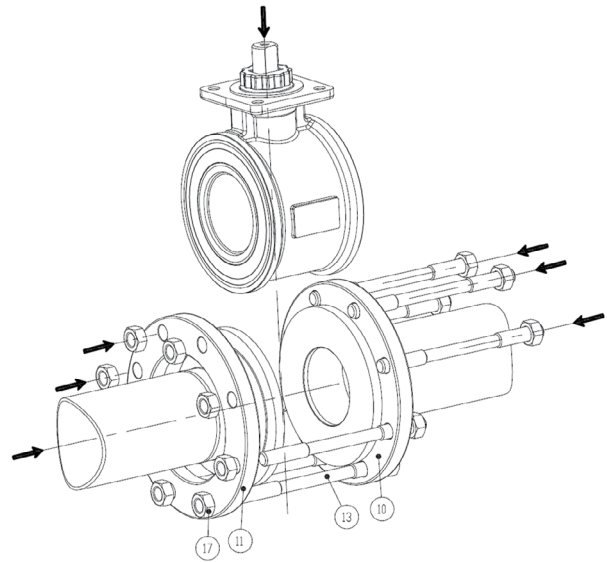

Fig 5
Packing (06) and stem seal (04) replacement (Fig 5, Fig 7 & Fig 8)
1. Unscrew one screw (13) and take it out and the nut (17) to allow valve body to be taken out
3. Operate 90° to allow the ball (09) to be in the close position
4. Push the ball (09) outside of the body. Seats (08) will be pushed as well
5. Take out Nut lock (28) and unscrew the nut (18)
6. Take spring washers (07) and gland (24)
7. Push the stem (05) inside the valve the stem seal keep staying on the stem
8. Take out stem (05) and replace stem seal (04)
9. Take out packing (06) from valve body and replace with a new one